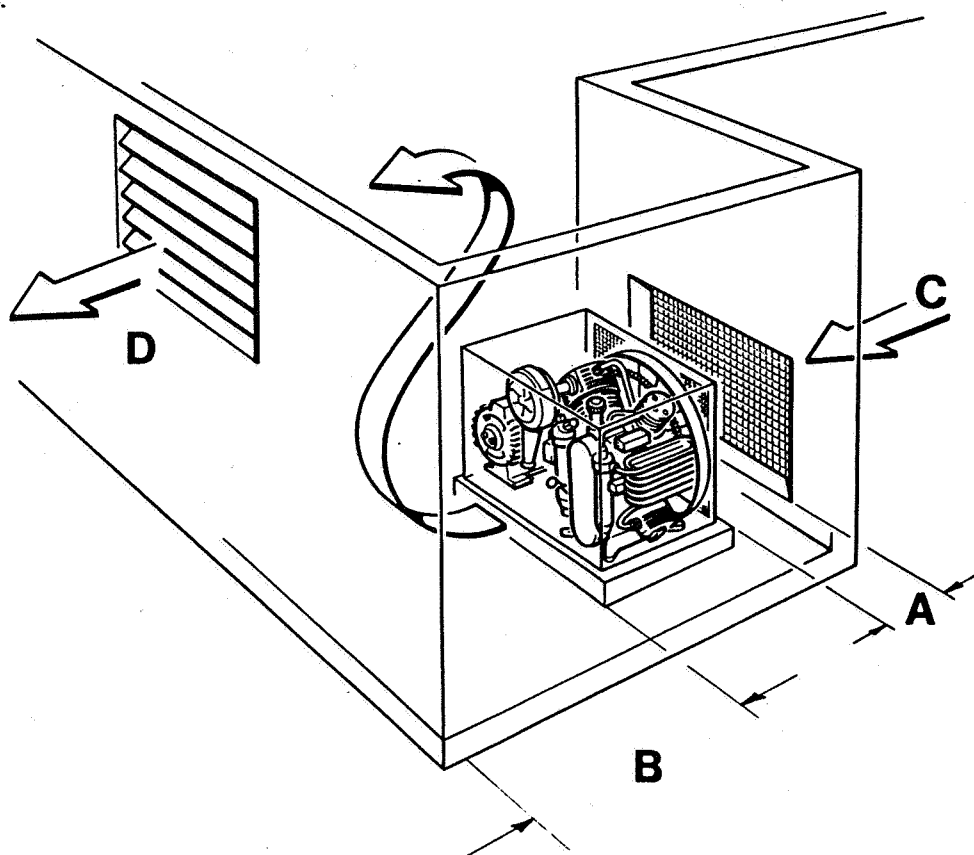

Fig. 15.2 Installation of the compressor unit (natural ventilation)
- Ensure that an adequate exhaust air opening is provided (see fig. 15.2).